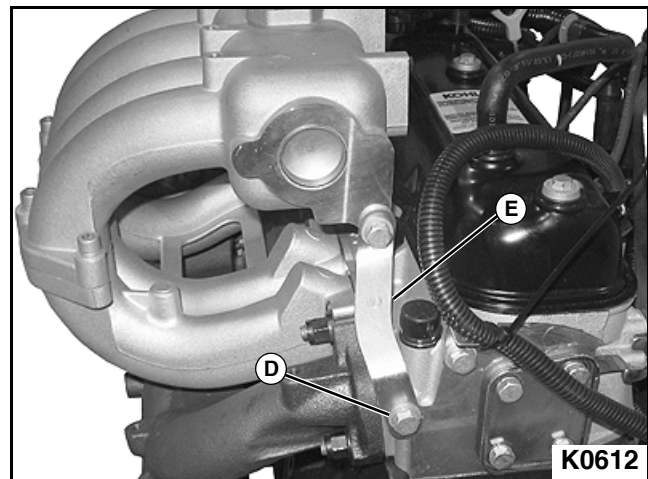

Figure 3-61
3. Install bolt, flat washer, and lock washer (D) to intake manifold-to-cylinder head support bracket (E). Tighten bolt. **See Figure 3-61.**